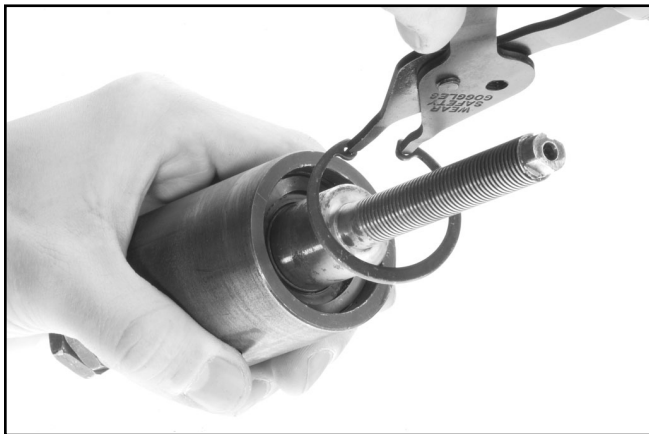

Figure 29. Removing bearing retaining ring.
7. Remove the retaining ring shown in **Figure 29**.